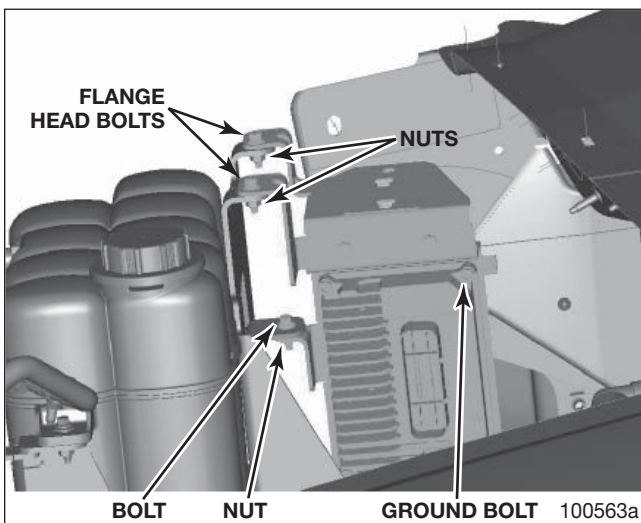

Figure 98 – SRM Bracket Mounting
4. Install the M6x16 bolt and M6 nut to attach the lower part of the SRM bracket to the cooling bracketry. Torque to 8-12 Nm. Figure 98.